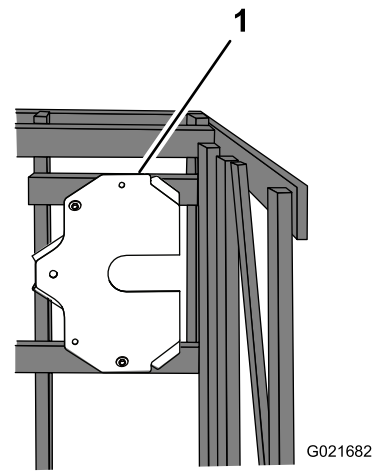

Figure 10
- Remove the bolts securing the mounting plate to the crate (Figure 10).